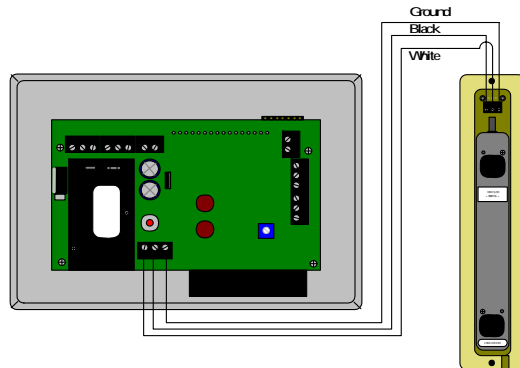

Figure 7-3 Advantage 1000DE to One Scepter® Antenna Connections
**Connecting an SCP Part #699 Scepter® Antenna:** Use the SCP Part #429 cable provided with the Advantage 1000DE kit. Connect the #699 Scepter® Antenna to the Advantage 1000DE panel as shown in Fig. 7-3.